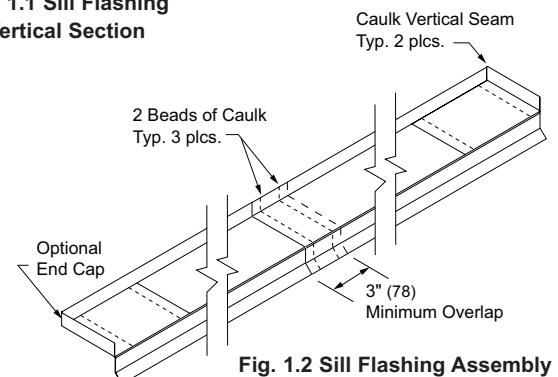

Fig. 1.2 Sill Flashing Assembly
- a. Caulk multiple section sill flashing at the overlapping joint(s) and firmly set. See fig. 1.2.
- b. When sill flashing end caps are required, caulk the underside of the end cap and firmly set over the top of the sill flashing taking care to butt the edge of the vertical leg snugly against the edge of the vertical leg of the sill flashing and adequately caulk the joining vertical seam. See fig. 1.2.